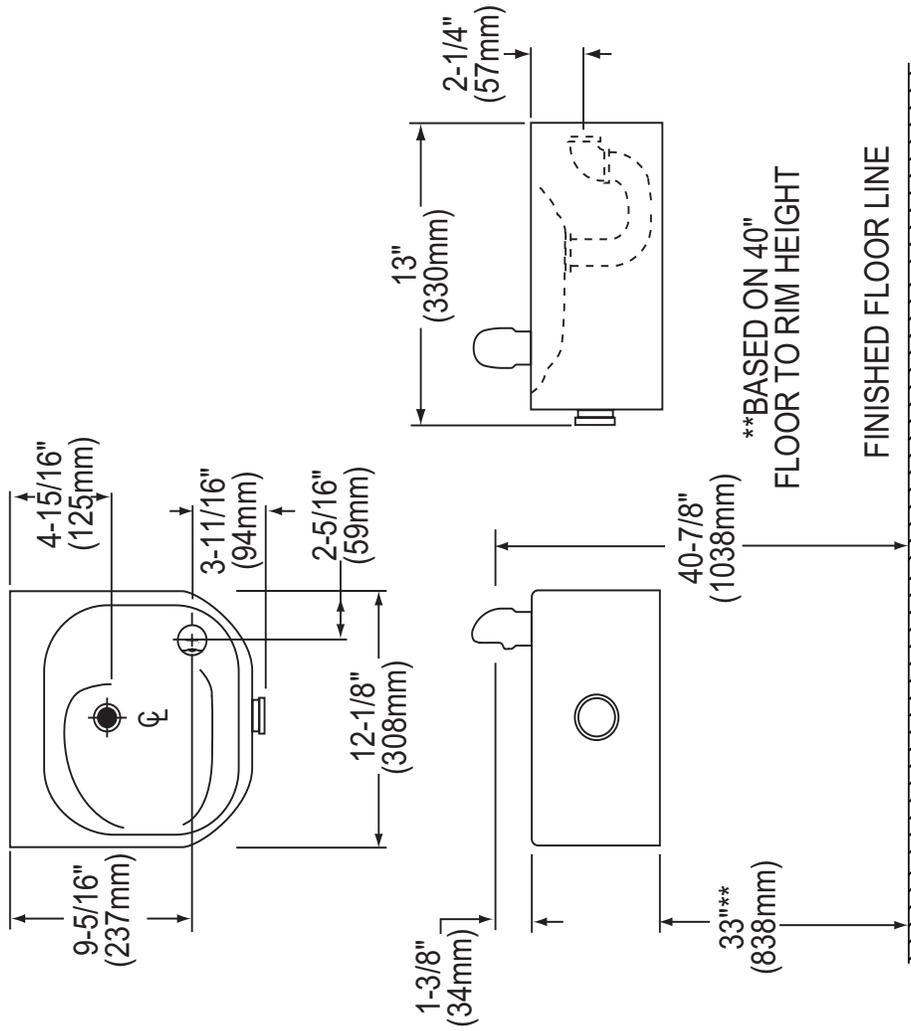

FIG. 3
- 1. Wall** should already be framed for the fountain using the positioning dimensions shown in Figures 3, 4 or 5. Shown dimensions pertain to installation location (framing must support up to 150 lbs. weight). These dimensions are required for compliance with ANSI Standard A117.0.
- 2. Install** rough-in plumbing as shown in Figures 3, 4 or 5. Waste line should extend a minimum of 2" (51mm) through the back panel. Run the supply water inlet line through the back panel. Install a service stop (not provided). Turn on supply water and flush thoroughly.
- 3. Remove** bottom access panel from fountain basin and save the screws. Install the fountain to the back panel and wall using (4) 5/16" x 2" long lag bolts and washers (not provided) through holes in back panel. Tighten securely.